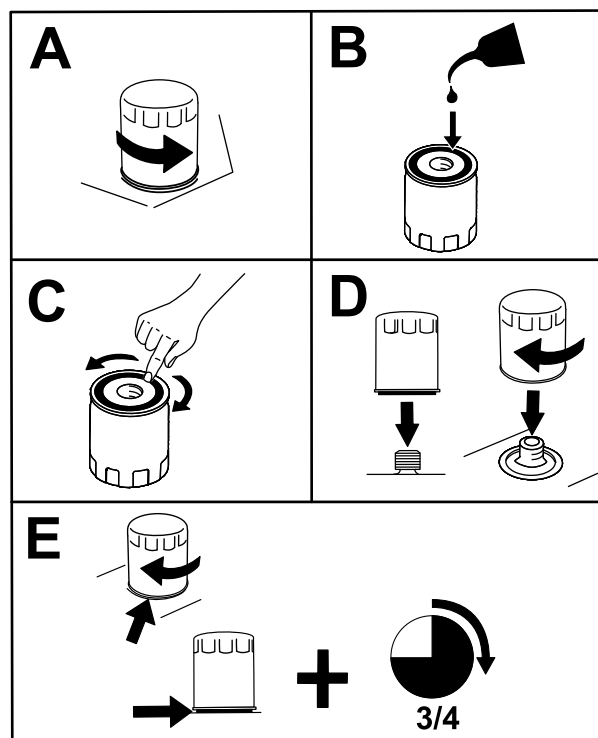

Figure 36
2. Change the engine-oil filter (Figure 36).